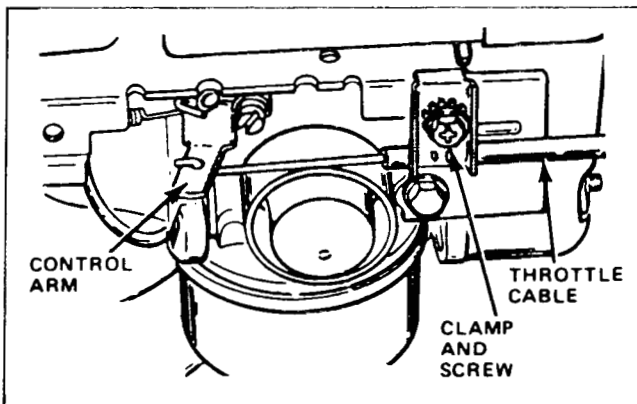

Figure 4
3. Loosen the cable clamp screw until the throttle cable slides. See Figure 4. Move the carburetor control arm as far to the left as possible. Pull the throttle cable slightly to remove any slack and tighten the cable clamp screw to lock adjustment in place.